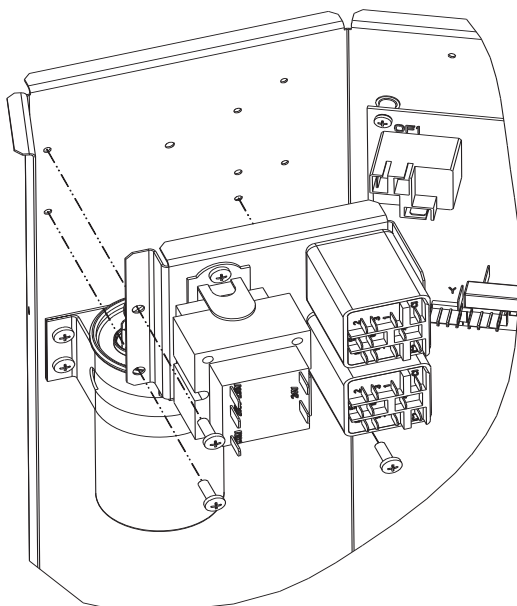

Fig. 2- Installing the KHAVC0101AAA Control Voltage Adapter Kit
6. Attach the kit to the partition in the space above the capacitor using the three holes indicated in Fig. 2 below.